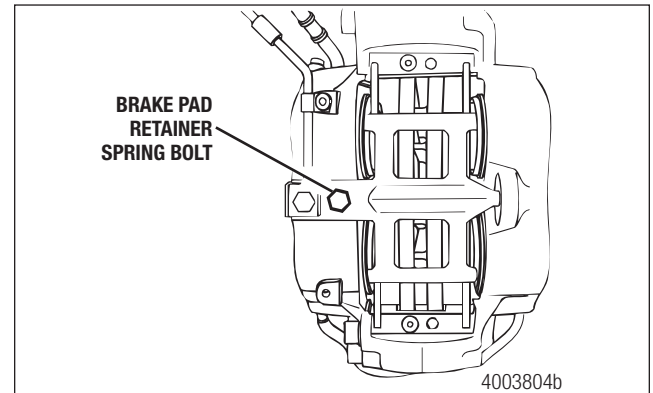

Figure 6.11
1. Install the brake pads and pad retainer. Tighten the pad retainer bolt. Refer to Section 11 Specifications on page 26. Figure 6.11.